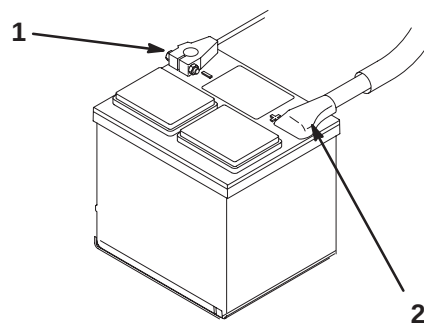

Figure 14
8. First, install the positive cable (red) to the positive (+) terminal and then the negative cable (black) to the negative (–) terminal of the battery (Fig. 14). Slide the rubber boot over the positive terminal to prevent a possible short from occurring.